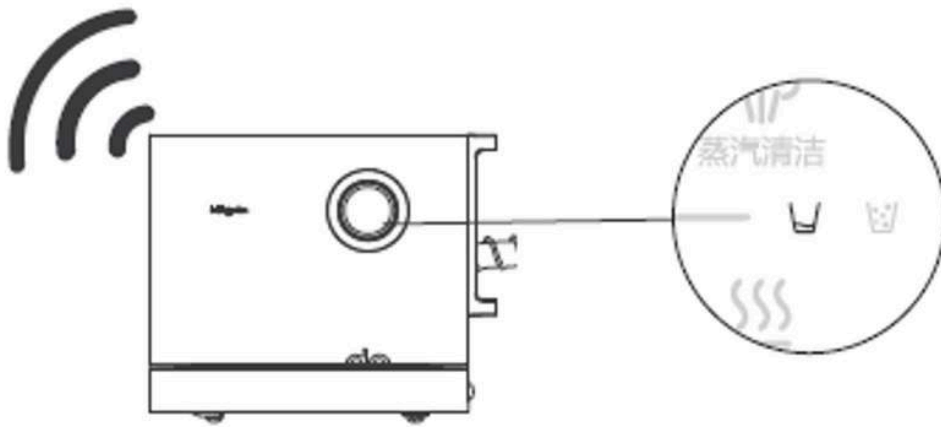

Fig. 14
1. During working process (spray water or release steam), the appliance will produce audio prompt and the current function will be canceled as well as the refill indicator of clean water tank will flash if the clean water tank is in lack of water, at that time, the clean water tank needs to be refilled (see Fig.14).